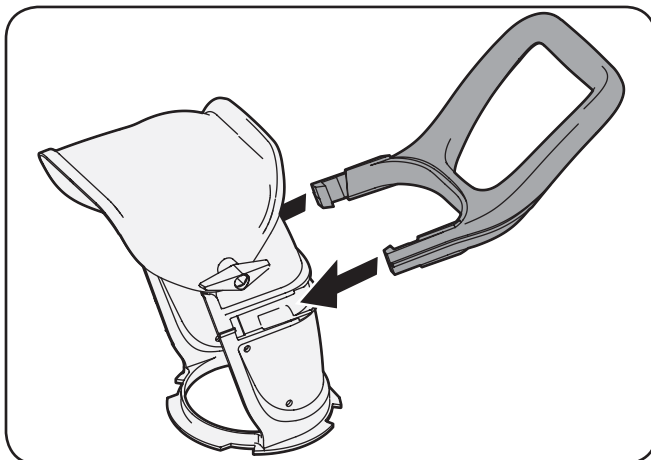

Figure 3-2
3. Clip the discharge chute handle onto the discharge chute, as shown in Figure 3-2.